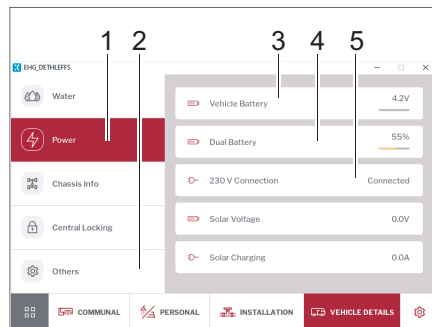

Fig. 290 Power and inside temperature
- Click on the *Power* (Fig. 290,1) button.
The vehicle's battery voltage (Fig. 290,3), the charge status of the body battery in % or charge voltage of the AGM battery in V (Fig. 290,4) and the 230 V supply status (Fig. 290,5) will be displayed.
- Click on the *Other* (Fig. 290,2) button.